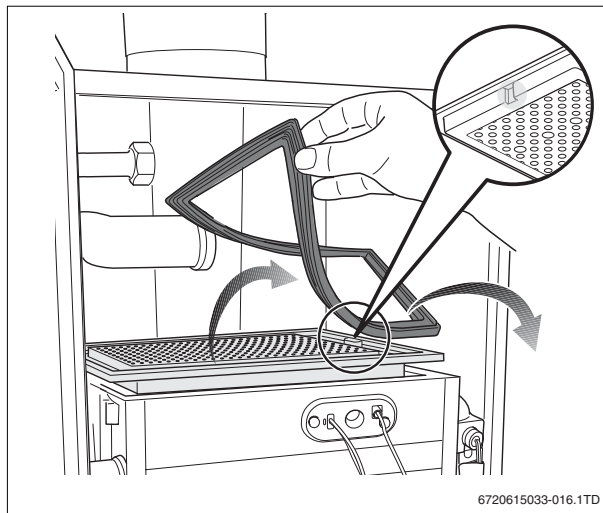

Fig. 12 Re-installing the burner plate
- ▶ Refit all parts in reverse order. When re-installing the burner plate, make sure that the notch is on the right-hand side (→ fig. 12).